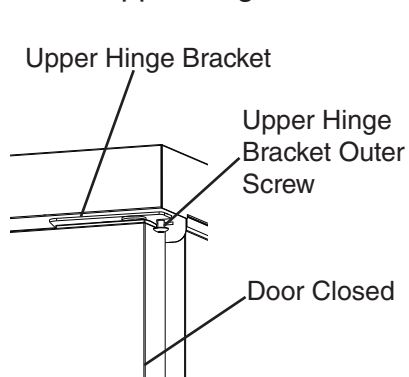
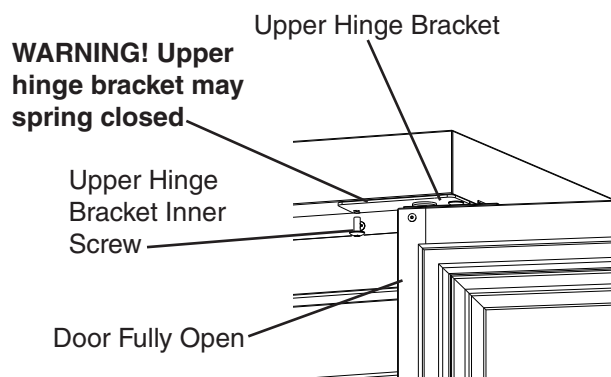

**Fig. 27**
**Fig. 28**
- 9) With the door closed, loosen, but do not remove, the upper hinge bracket outer screw. See Fig. 27. Next, open the door to the fully open position and remove the upper hinge bracket inner screw. See Fig. 28.